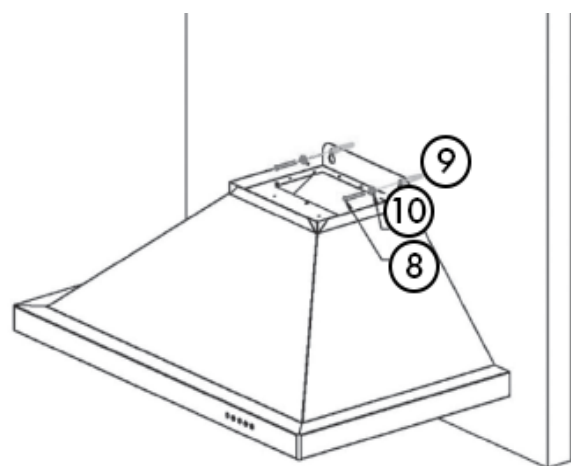

Figure 2
2. Drill holes into each mounting point with a suitable sized bit. Tap 2 anchors (Item No. 9) into the holes, then fasten 2 mounting screws (Item No. 8) and washers (Item No. 10), making sure to leave the screw heads out roughly 1/4" (6 mm) in order to mount the hood. *Figure 2*
3. Using at least two people, mount the main body of the hood onto the two screws and slide into place. *Figure 2*